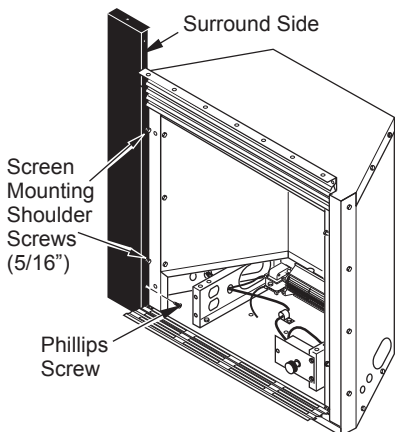

Figure 6 - Attaching Left Surround Side Panel
3. Align holes in left surround side panel with screen mounting screw holes. Replace 5/16" screen mounting shoulder screws removed in step 1 (see Figure 6, page 10). Do not tighten. Install Phillips screw in bottom (see Figure 6, page 10). Repeat for right side.